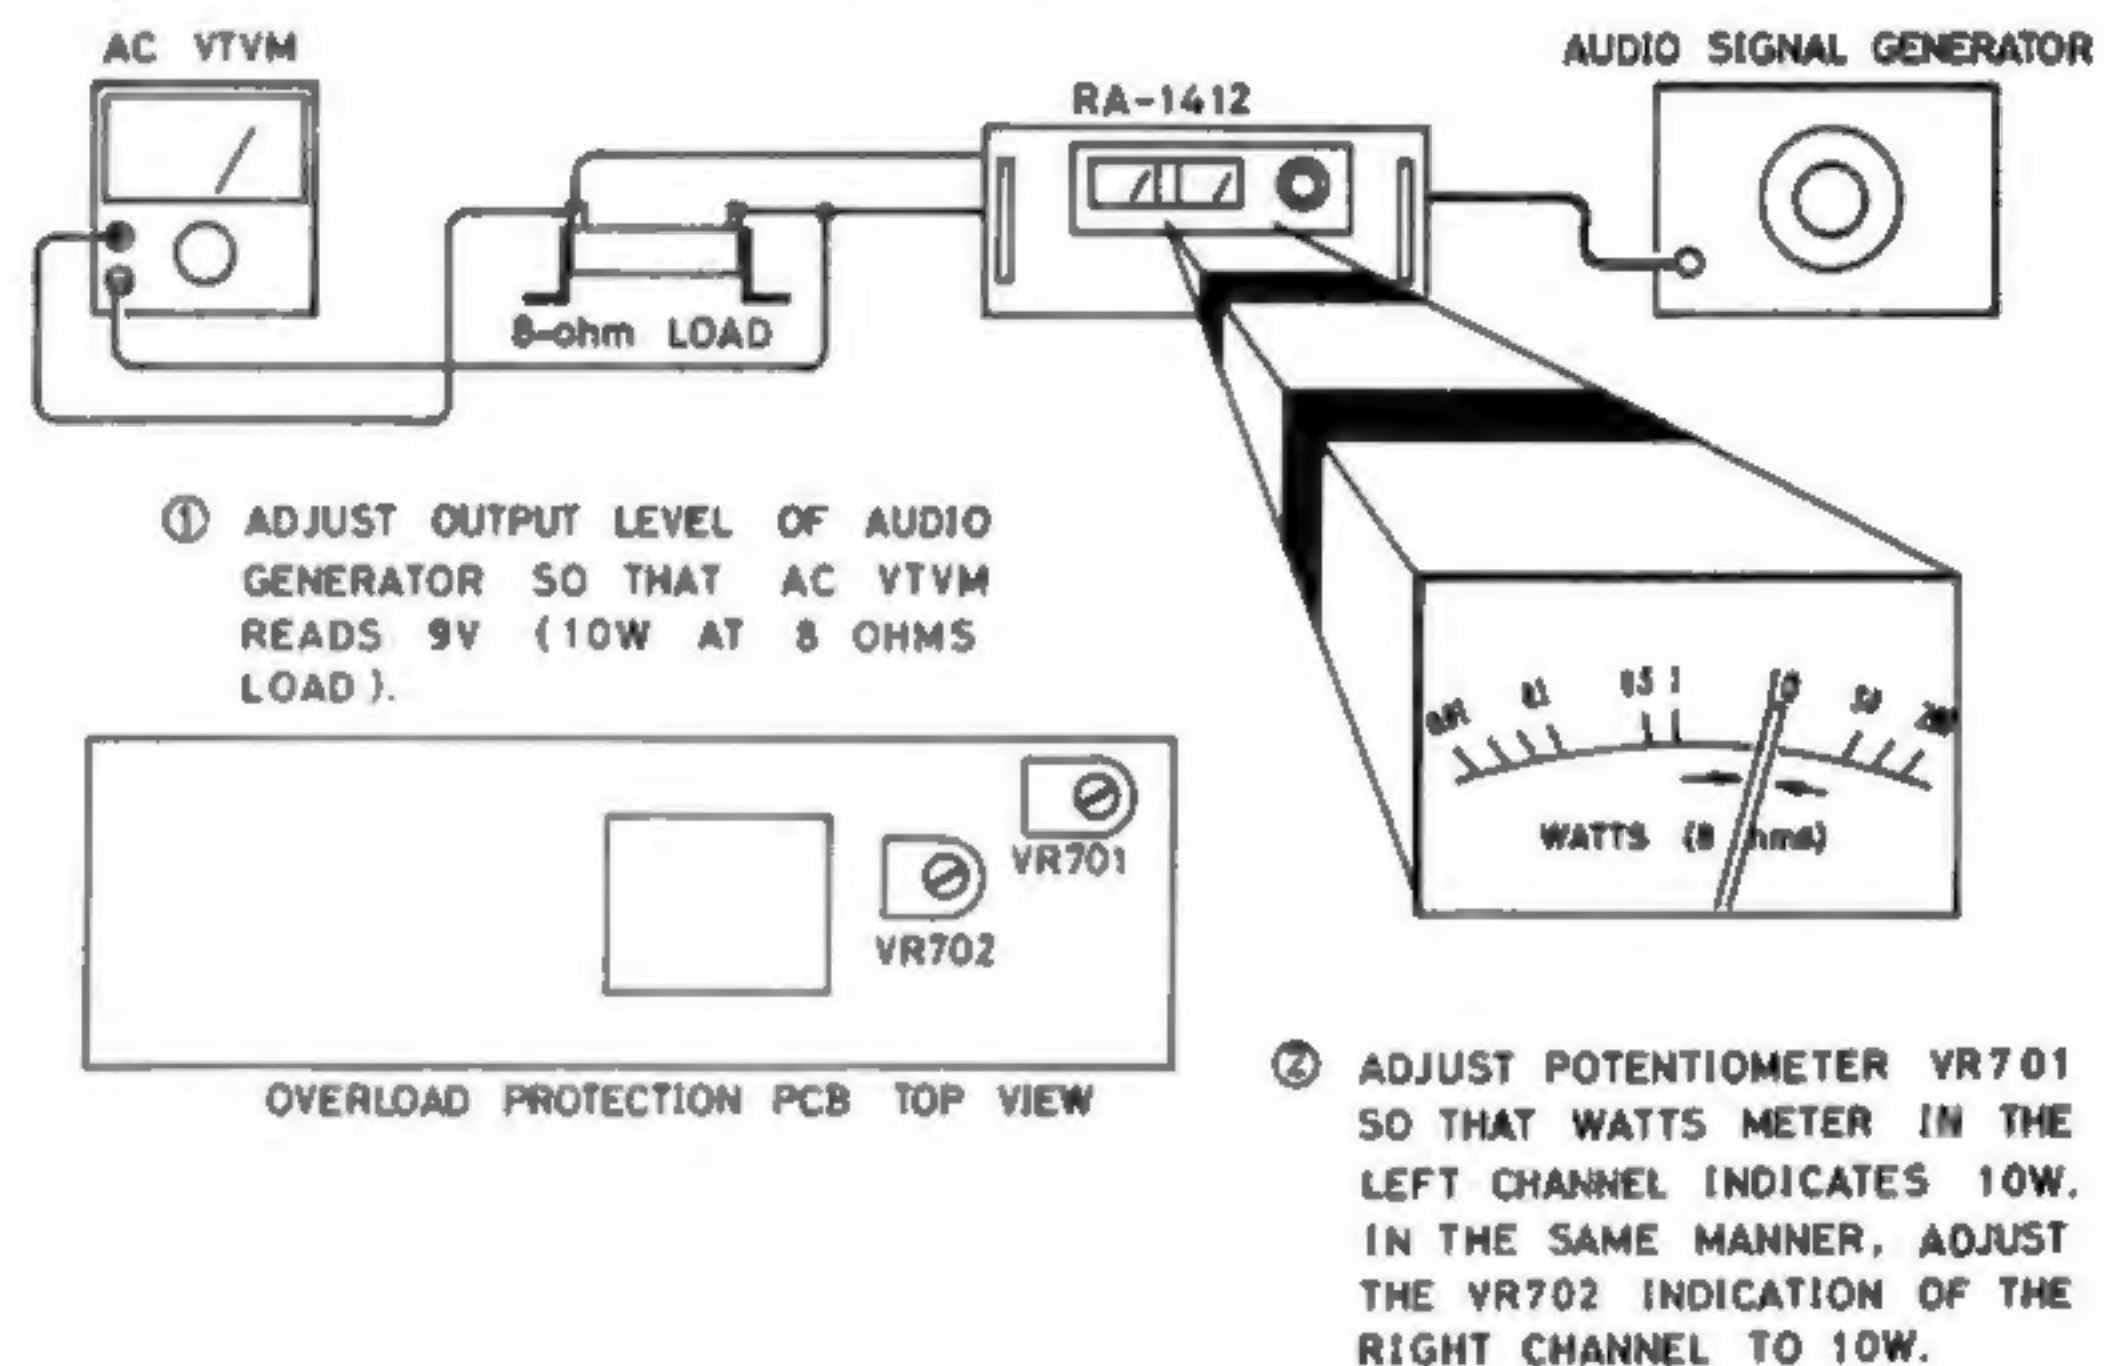

Fig. 5 WATTS METER CALIBRATION HOOK-UP
- In the Phase (c) state, adjust potentiometer VR701 (left channel) and VR702 (right channel) so that the Watts Meter reads 10W. See Fig. 5.